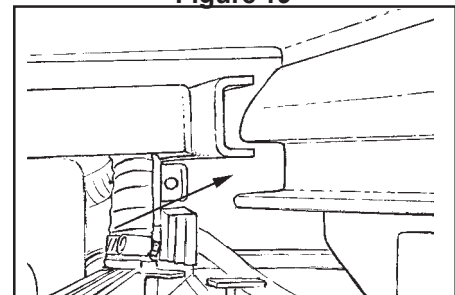

Figure 20
3. Align the mounting rails of the machine with the channels on the brush head unit (see figure 20).